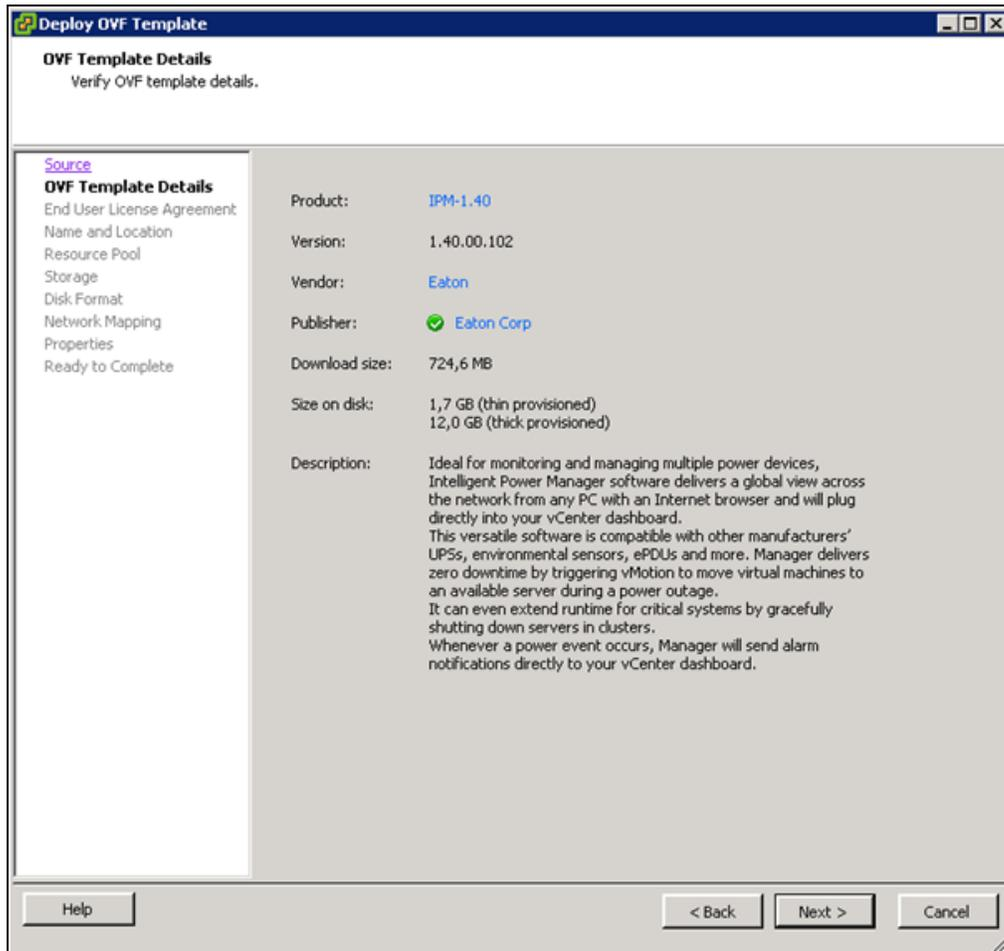

Figure 146. Deploy OVF Template
4. Choose **File > Deploy OVF Template** (see Figure 146).
8. Follow the instructions provided on the Deploy OVF Template (see Figure 146).